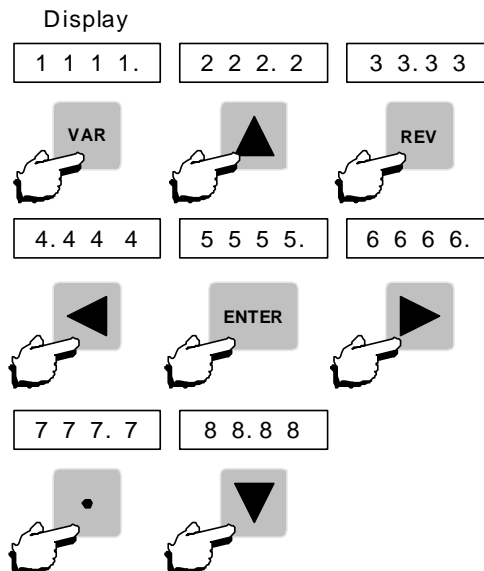

Figure 15: Keypad Test Showing the Display After Each Key Press
3.	Press each key from left to right and the display will appear as shown in Figure 15. Note the position of the decimal point after each key press.